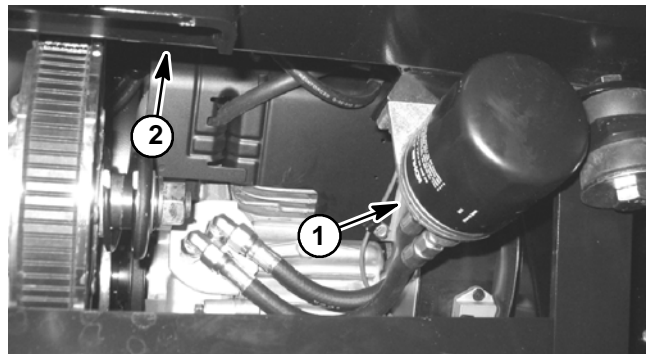

Figure 11
6. Gaining access from under operator seat, loosen two (2) flange head screws and flange nuts that secure oil filter adapter to right hand frame rail (Fig. 11). Slide adapter with oil filter away from frame.
9. Position oil filter adapter with oil filter to the right hand frame rail. Install two (2) flange head screws and flange nuts and secure oil filter adapter to machine (Fig. 11).